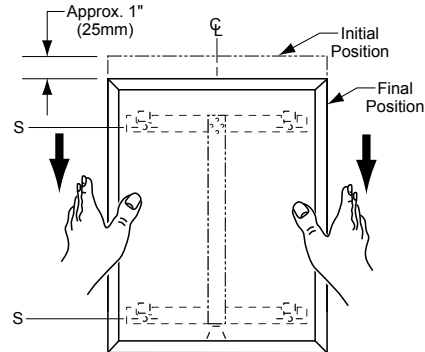

Figure: 5
**Lock Tab Design** — Locking device automatically secure mirror to concealed wall hanger when it is lowered into final position (see figure 5). Locking device may be unlocked by sliding Key between mirror and wall and depressing tab on back panel. If key is required, please the factory.